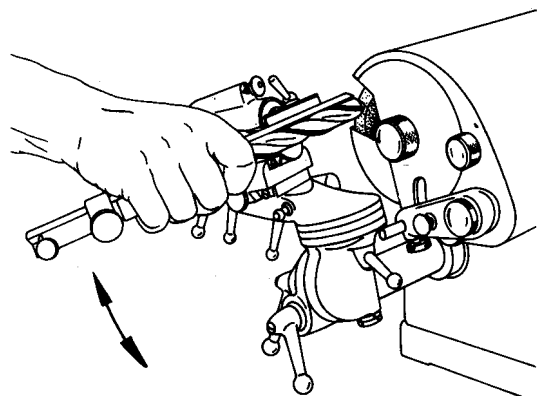

Fig. 3
8. Swivel twist drill grinding attachment upwards. Use fine adjustment screw F to advance the drill until it contacts the grinding wheel. Grind first cutting edge by swivelling the attachment downwards (Fig. 3). Repeat feed and grinding operation if required.